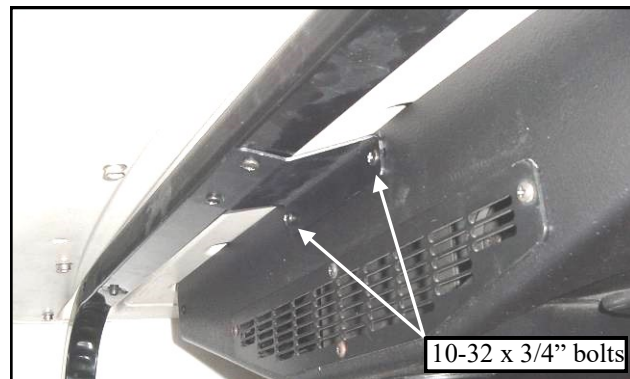

Figure 3.3 (view from left front corner)
3.3 Per fig. 3.3, install two 10-32 x 3/4" long Phillips head bolts in the front of the heater unit with someone supporting the back.